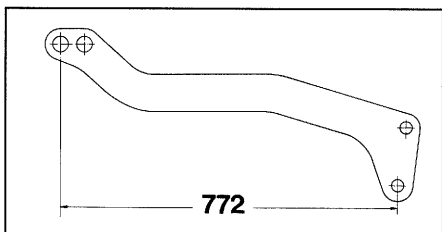

Fig. 11
3. Carrying arms (Fig. 11) for front harrows VE.